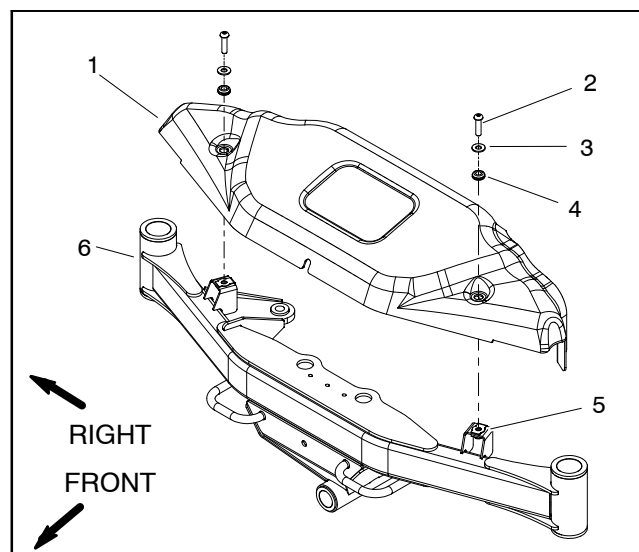

Figure 133
2. If front steering cylinder is to be removed from machine, remove front cover from front axle to allow access to front steering cylinder (Fig. 133).
13. If removed, secure front cover to front axle (Fig. 133).